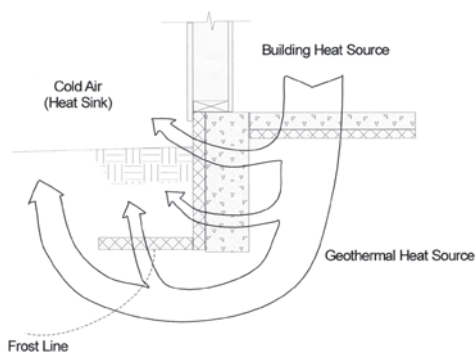
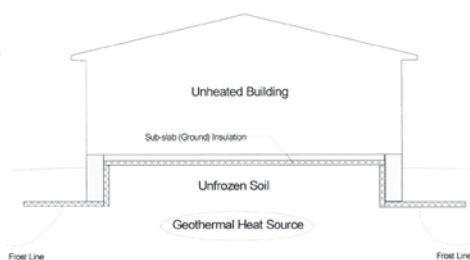

Figure 2. FPSF heat flow for a heated building.
Figure 3. Example of FPSF detail for an unheated building.
Frost-heave depends on the presence of three factors: (1) below freezing temperatures, (2) frost-susceptible soil, and (3) adequate supply of moisture in the soil. From a performance-based design perspective, removing any one of these factors will protect a foundation against the devastating effects of frost heave. The FPSF technology uses foundation insulation to effectively raise the frost depth by conserving building and geothermal heat (see Figure 2). In heated (occupied) buildings, heat sources include interior conditioning of the building and geothermal stores, whereas in unheated buildings the only heat source is geothermal. In the latter case, greater amounts of insulation are required and the building foundation is essentially constructed on a foundation pad comprised of a "blanket of insulation" and non-frost susceptible granular fill (see Figure 3).
It is also extremely important to be sure that appropriate types of extruded or expanded polystyrene are specified and used, as these products maintain an adjusted or effective thermal resistance value (R-value) in moist, below-ground applications. It is also important to specify an appropriate type of polystyrene when used in load bearing applications supporting distributed footing loads as in Figure 3. Where exposed above-grade, polystyrene must also be protected against damage using a protective facing such as polymer-based or conventional stucco, vinyl, or other materials suitable for exterior use. Other important design considerations, such as bearing value of soil at depth, follow standard design practice or building code requirements.